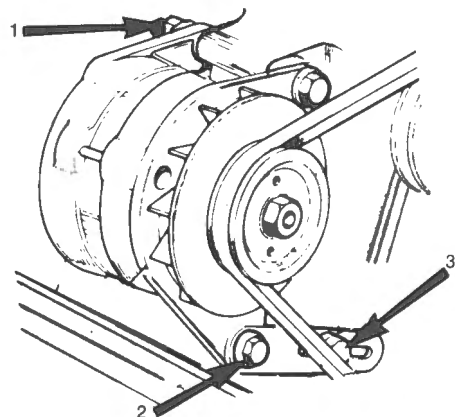

Fig. S-7
- 2 Loosen the bolt securing the alternator to the adjusting link. Fig. S-7 and S-8.